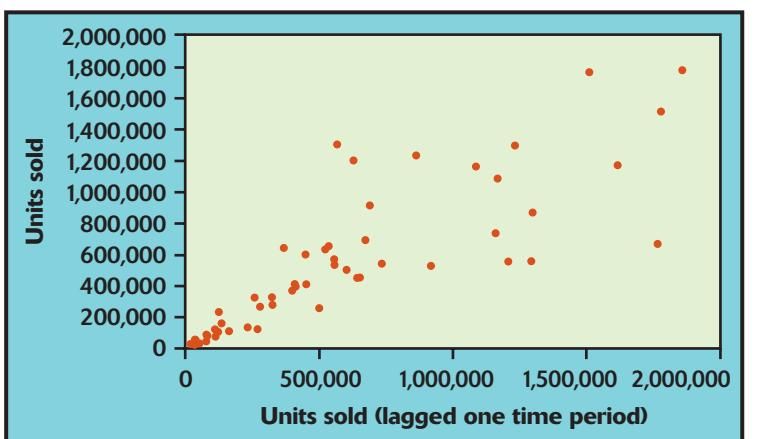
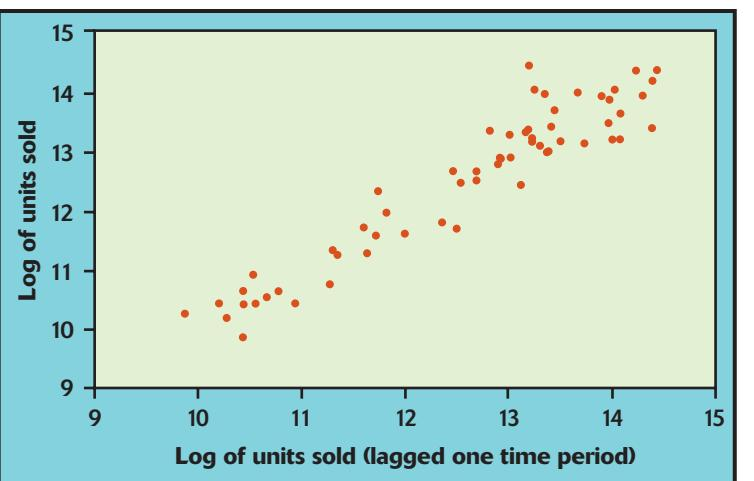

Figure 13.11 Lagged time series plot of the DVD player sales time series ($r = 0.80$).
Figure 13.12 Lagged time series plot of the log of the DVD player sales time series ($r = 0.95$).
Figure 13.11 plots the number of units sold against the number of units sold lagged one period. Figure 13.12 plots the same points after taking logarithms. Figure 13.12 ($r = 0.95$) shows a stronger linear pattern than
Figure 13.11 ($r = 0.80$) suggesting an AR(1) model will fit the DVD player sales data better after logarithms have been taken. We will proceed using the transformed time series in an AR(1) model.